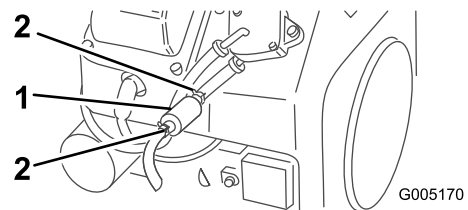

Figure 29
5. Squeeze the ends of the hose clamps together and slide them away from the filter (Figure 29).
6. Place a drain pan under the fuel lines to catch any leaks, then remove the filter from the fuel lines (Figure 29).